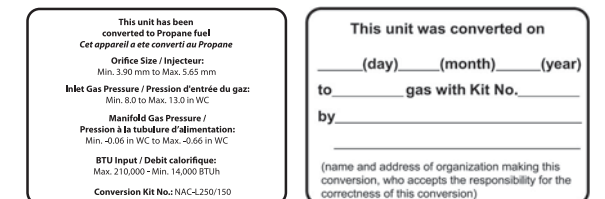

Figure 11. Proper Placement of Gas Conversion Labels
13. Once the CO₂ or offset values have been confirmed, apply the included conversion stickers to show that the appliance has been converted to propane gas. Place these labels adjacent to the rating plate as shown in Figure 11.